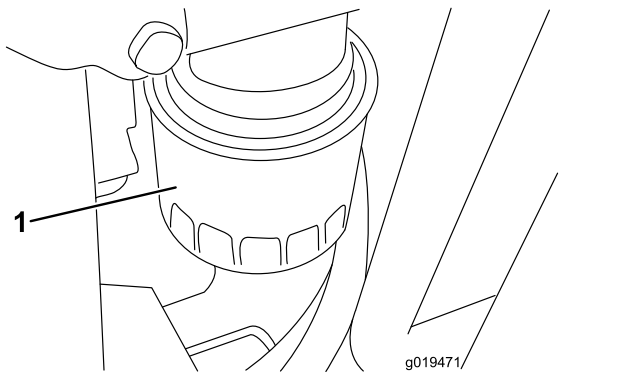

Figure 52
2. Remove the oil filter (Figure 52). Apply a light coat of clean oil to the new filter seal before screwing it on. Do not overtighten the filter.